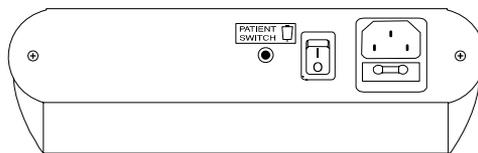

Figure 3.1— Sys*Stim 208, Back View—Mains Power Switch, Line Cord Connection and Patient Safety Switch Connection
1. Connect the line cord to the back of the Sys*Stim 208. (See Figure 3.1)
5. Plug the Patient Safety Switch (ME2031) into the back of the unit as seen in Figure 3.1.